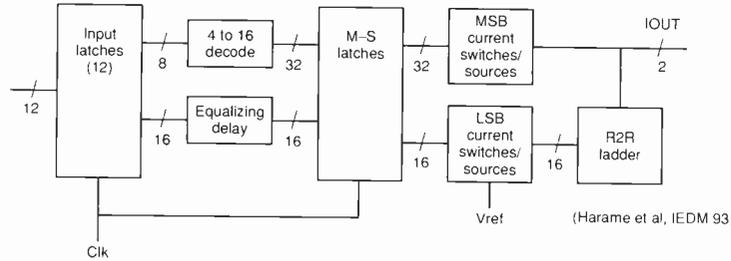
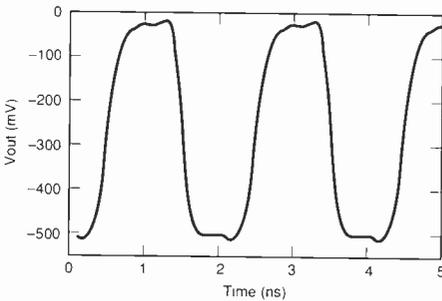

Fig. 8. 12-bit 1GHz digital to analogue converter: block diagram.
Fig. 9. 12-bit 1GHz digital to analogue converter: output waveform.
The first SiGe product will be a version of the dac, and this will be available at the end of the year. Apparently, it is now being sampled for use in a fibre to the kerb application in Eastern Europe; a number of channels are combined and digitised before being sent down a fibre-optic link at rates of 9Gbits/s. At the kerbside they are received and fed into the 12-bit dac, to produce a 750MHz bandwidth analogue signal. Figure 8 shows the block diagram while Fig. 9 gives the output waveform for toggling between 0 and full scale at a rate of 1GHz. Incidentally, the dac may be faster than 1GHz but, at the time these results were released, that was the maximum speed of the available test equipment!
Fig. 9. Above 105MHz, stray capacitances make designing a reliable oscillator difficult. To help prevent oscillation not controlled by the crystal, this circuit uses a small inductor in parallel with the crystal to tune out its static capacitance.
**Above 105MHz.** Reactance from stray circuit capacitances can make high-frequency oscillators difficult to design. In the solution shown in Fig. 9, a small inductor is added over the crystal to compensate for its inherent capacitance, which may cause undesirable effects. Tuning is carried out via the other inductor or by inserting a variable reactance in series with the crystal.